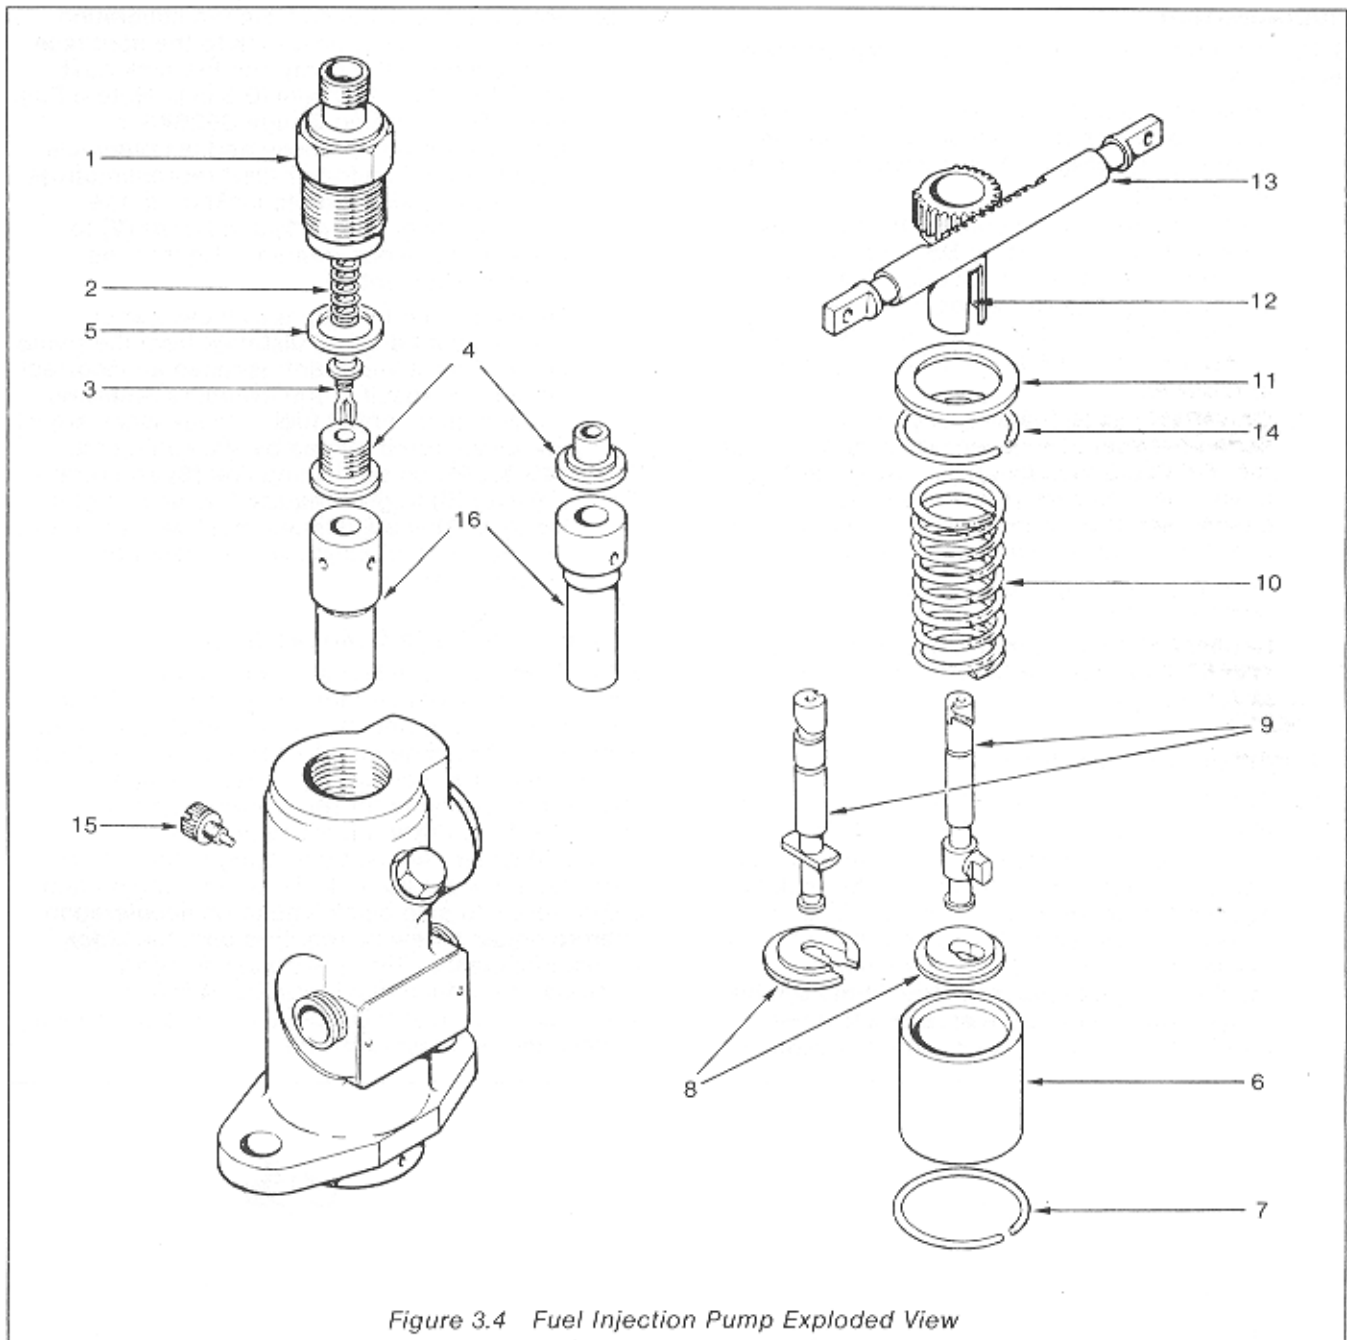
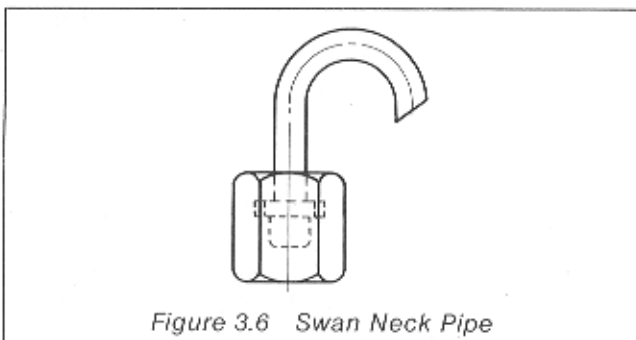
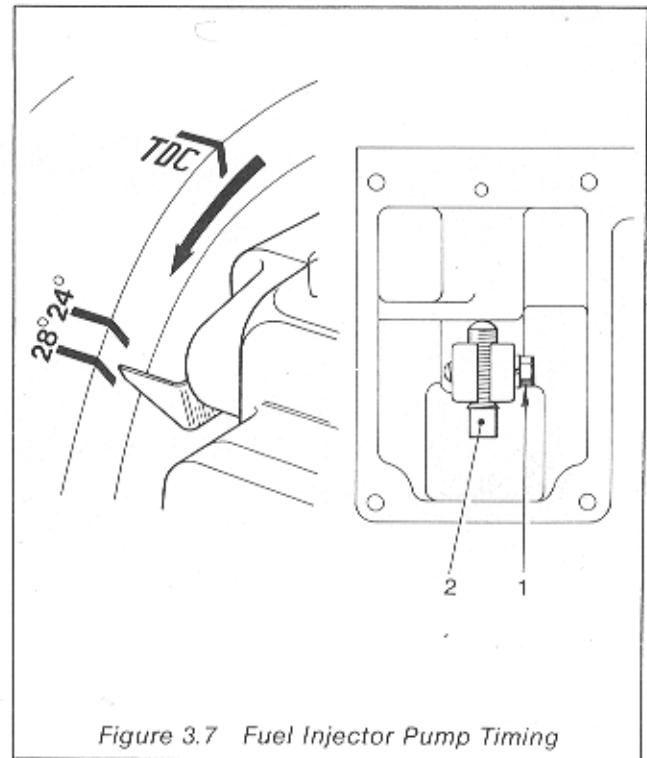

Figure 3.4 Fuel Injection Pump Exploded View
Figure 3.6 Swan Neck Pipe
Figure 3.7 Fuel Injector Pump Timing
Dismantling (Figure 3.4)**CAUTION**
Maintenance (Figure 3.4)**CAUTION**
Assembly (Figure 3.4)**3.11** Carry out the following procedure:**Note**
Timing (Figure 3.7)
- (3) Remove the pump-to-injector pipe and unscrew the union body (Figure 3.4 (1)) from the pump. Lift out the delivery valve and place in clean fuel. Do not disturb the delivery valve seat. Replace the union body, leaving out the delivery valve. Fit a spill swan neck pipe (Figure 3.6) to the pump union body.
- (4) Turn the engine flywheel until it is a quarter of a turn before TDC with the appropriate piston on the compression stroke.
- (5) With reference to Figure 3.7 slacken the pump rocker pinch bolt (1). Unscrew the adjusting screw (2) until the pump is at the bottom of its stroke. Allow the fuel to flow from the pump. If a fuel lift pump is fitted fuel will not flow unless the feed pump lever is operated.
- (6) Turn the flywheel until the appropriate timing mark (refer to Table 3.1) preceding the TDC mark is opposite the pointer.